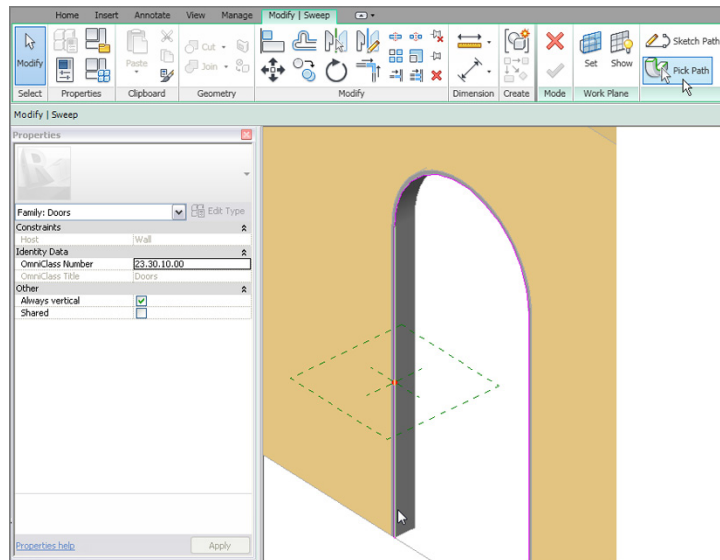

FIGURE 17.22 Picking the path for the sweep
1. Go to a 3D view (if you aren't there already), and position the view so that it looks like Figure 17.22.
4. Pick the inside corner of the jamb starting with the left side (see Figure 17.22).